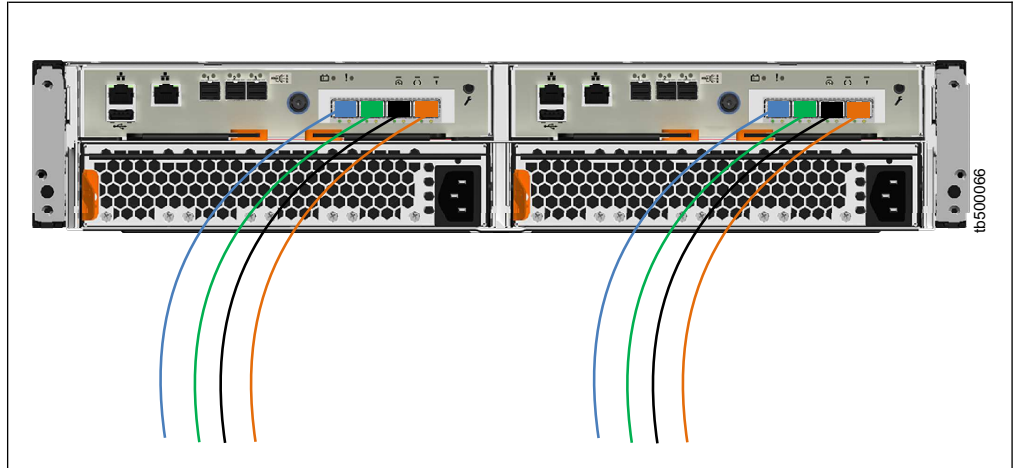

Figure 118. Example Storwize V5020 configuration with four Fibre Channel cables per canister
2. If you want to connect additional Fibre Channel cables, make sure to connect the same number of cables to each canister. Figure 118 on page 137 shows an example Storwize V5020 configuration with four Fibre Channel cables connected to each canister.